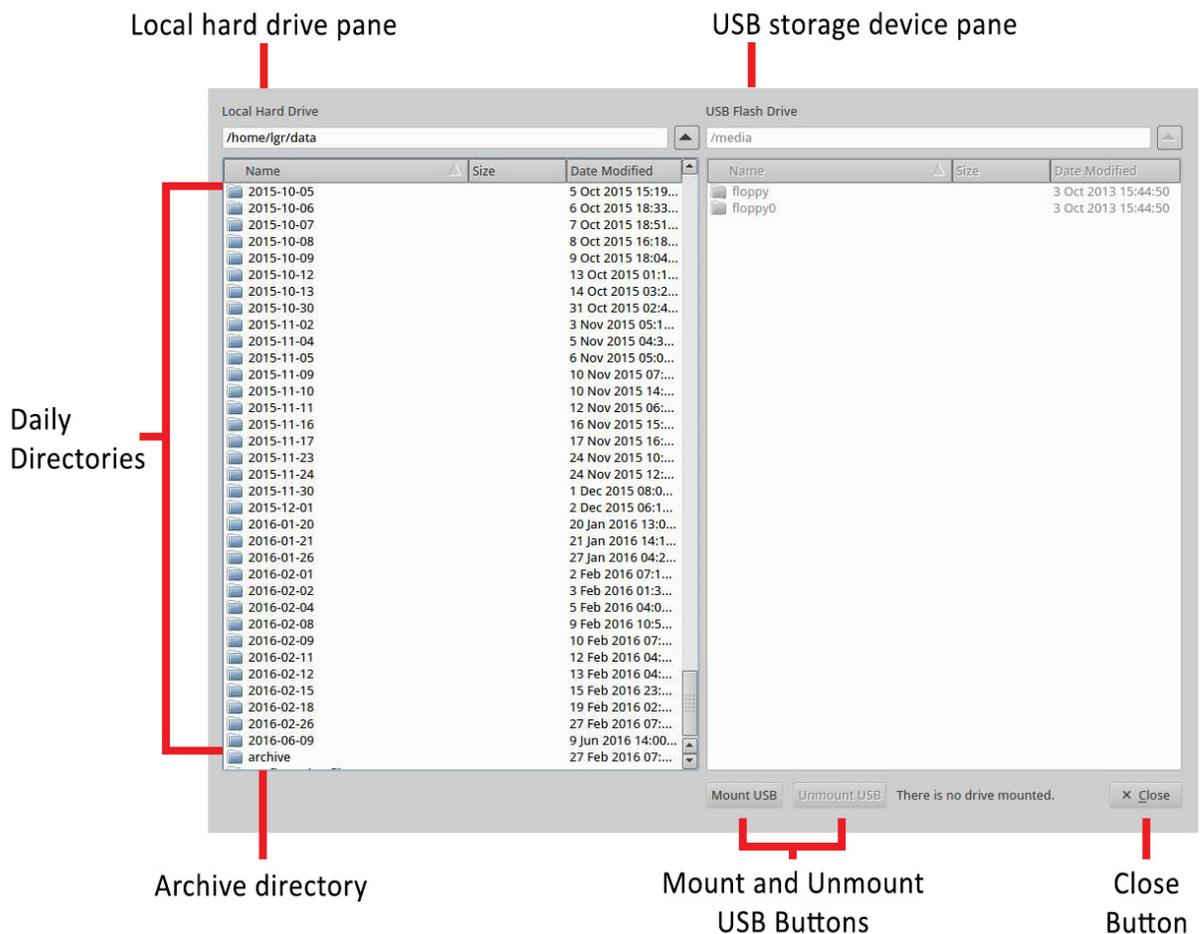
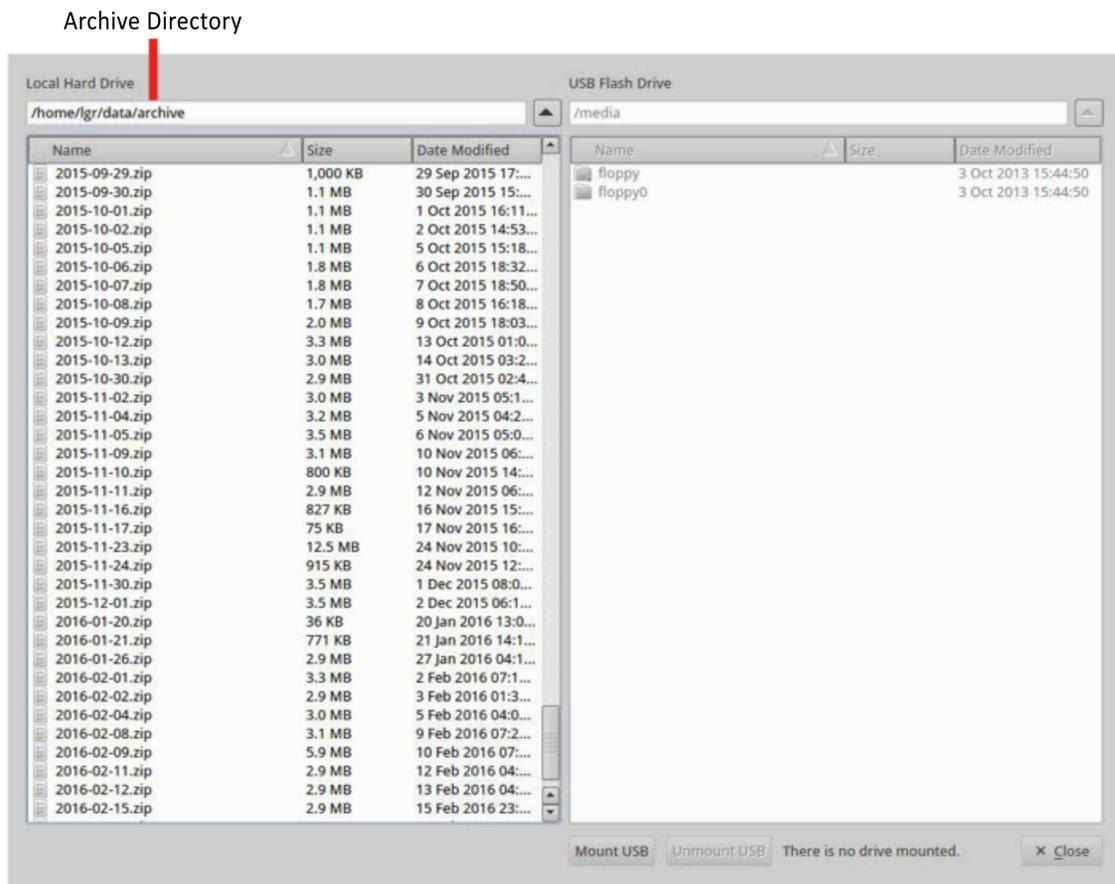

Figure 35: File Transfer Menu: Local Hard Drive (Left Pane) and USB Flash Drive (Right Pane)
Figure 37: Archive Directory
1. Click the **Files** button on the Control Bar (Figure 25) to access the *File Transfer* menu. (Figure 35)
3. Click the **Mount USB** button. (Figure 35)
The local hard drive (Figure 35) creates a daily folder containing new data files for each day that the analyzer operates.
The local hard drive (Figure 35) creates an archived folder containing zipped files organized by date. (Figure 37)
To access the archived files, double-click the **Archive** folder. (Figure 35)
Examples of files in the archive directory are shown in Figure 37.